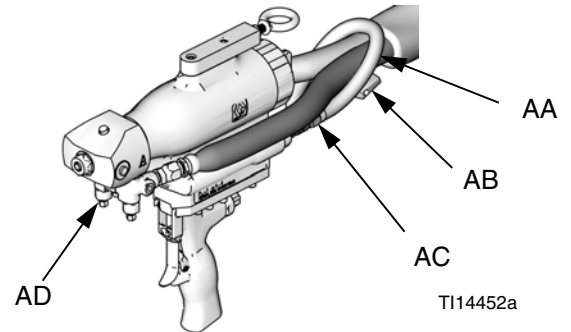

FIG. 6
4. Connect gun air whip hose (AA) and air valve (AB) to main air hose. See FIG. 6. Verify air valve is closed.
5. Assemble fluid manifold (AD) to gun by hand then use 5/16 in. nut driver to torque bolt to 20-30 in-lb (2.26-3.39 N•m). See FIG. 6.
6. Connect gun air whip hose (AA) to air quick coupler (AC). Turn on air. Open air valve (AB). See FIG. 6.